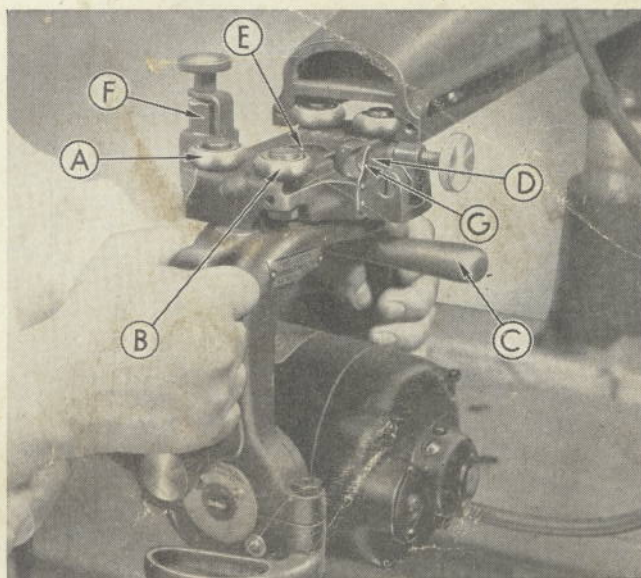

FIGURE 2
Remove the arm end plate and front safety stop bolt from the end of the arm. The machined ways inside the arm (Figure 2) should be thoroughly cleaned and grease and oil removed from them. THE WAYS SHOULD BE KEPT IN THAT CONDITION DURING THE ENTIRE LIFE OF THE MACHINE. GREASE AND OIL SHOULD NOT BE USED ON THE WAYS. CARBON TETRACHLORIDE IS THE BEST CLEANSER TO USE INSIDE THE WAYS.
After the ways have been wiped, hold the yoke handle of the saw carriage (Figure 2) with your right hand and support the carriage with your left hand. Insert the roller head assembly into the arm. Tilt the rip lock (D) until it does not interfere with the insertion of the roller head assembly. Replace the arm end plate and the stop bolt.